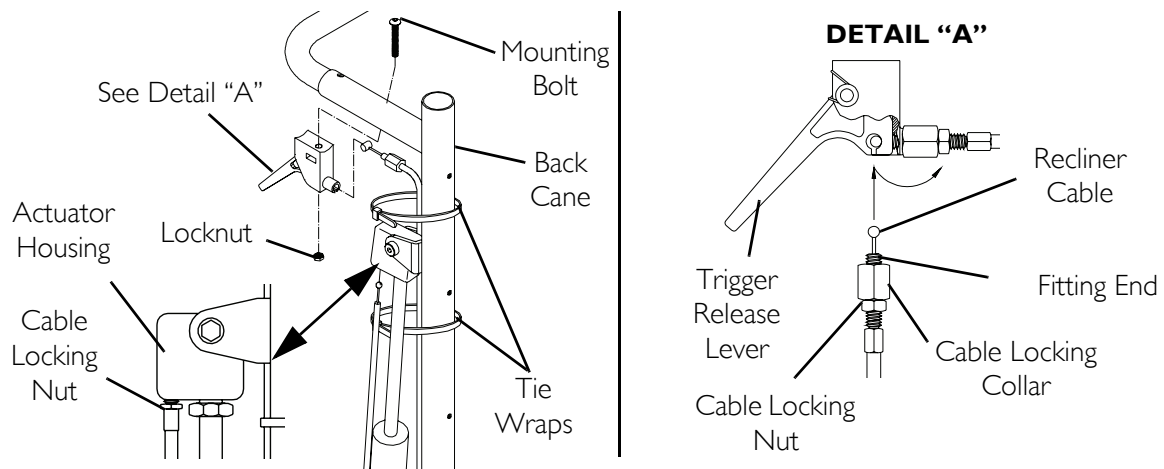

FIGURE 11.2 Replacing the Recliner Cables
NOTE: For this procedure, refer to FIGURE 11.2 on page 117.
NOTE: Refer to Detail "A" of FIGURE 11.2 on page 117 for STEPS 4-7.
1. Screw the new recliner cable into the trigger release lever until the fitting end of the cable is flush with the inside of the handle. Refer to Detail "A" of FIGURE 11.2.
NOTE: Refer to Detail "A" of FIGURE 11.2 for STEPS 3-6.